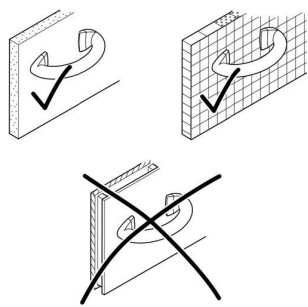

Fig. 3
- Mount only to walls that have a sufficient load-bearing capacity (Fig. 3).